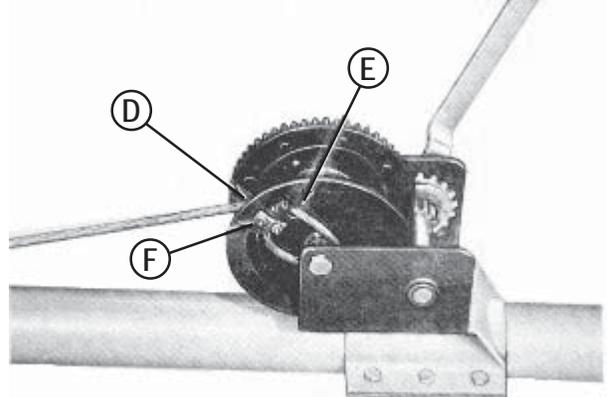

Figure 24
4. Thread cable over the top of spool at "D" (Fig. 24), around bottom of spool, and up through hole in reel at "E". Then thread cable around spool shaft and fasten to reel at "F" with clamp using (2) carriage bolts as shown.
1. Recheck the dimensions shown in Figure 24 for the respective elevator. The full height of the elevator must be on the truck when checking these dimensions. Check to see that a minimum of three complete wraps of cable is on the winch drum.